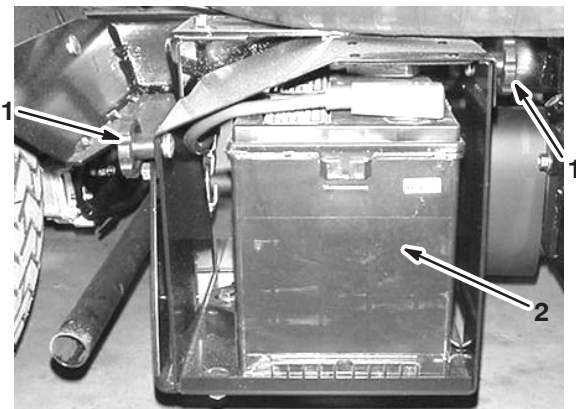

Figure 57
2. Loosen the knobs on the sides of the battery box and remove the battery cover (Fig. 57).
3. Remove the battery retainer and fasteners (Fig. 57).
3. Install the battery retainer and secure it with the fasteners you removed previously (Fig. 57).
4. Install the battery cover and secure it with the 2 knobs (Fig. 57).
1. Loosen the knobs on the sides of the battery box and remove the battery cover (Fig. 57).